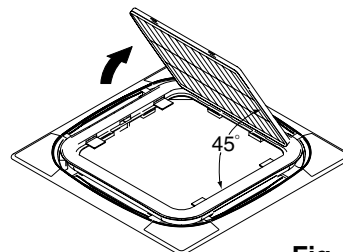

Fig. 2
- 2 Detach the suction grille from the decoration panel by lifting the grille up approximately 45 degrees. **(Refer to Fig. 2)**